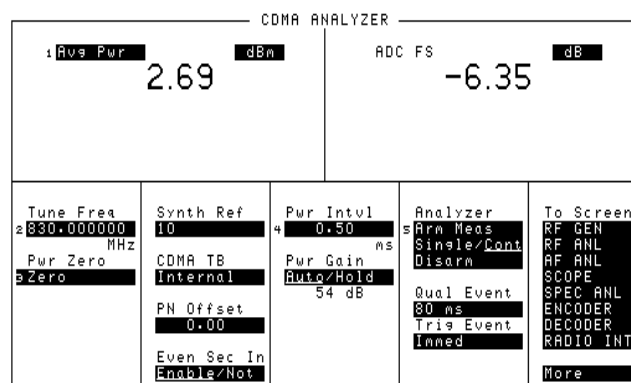

Figure 11. CDMA ANALYZER Screen on the Agilent 8921A Option 600 Test Set
1. From the **To Screen** menu, select **CDMA ANL**. The CDMA ANALYZER screen appears (see Figure 11).